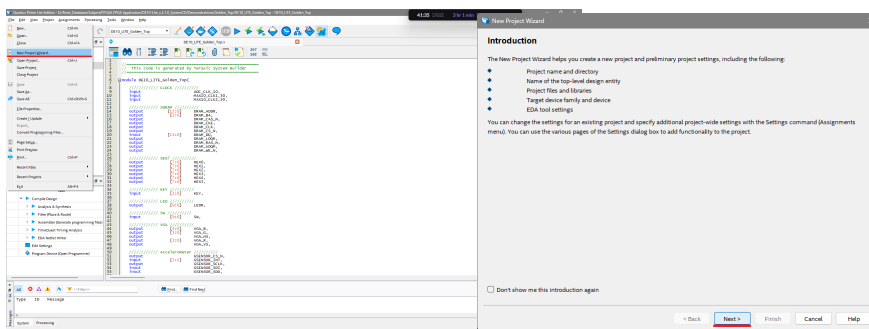

Figure 1: Select New Project Wizard
1. Click "New Project Wizard" in the "File" menu. (Figure 1)